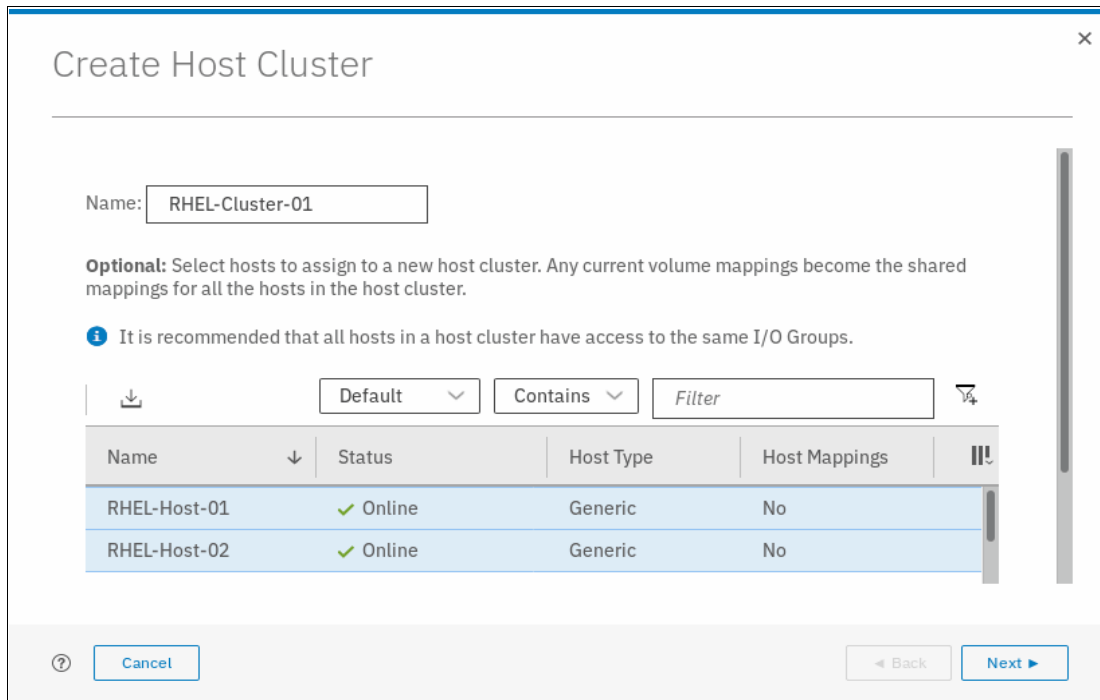

Figure 5-73 Selecting hosts for cluster
4. Select the hosts that you want to be part of the cluster, as shown in Figure 5-73.